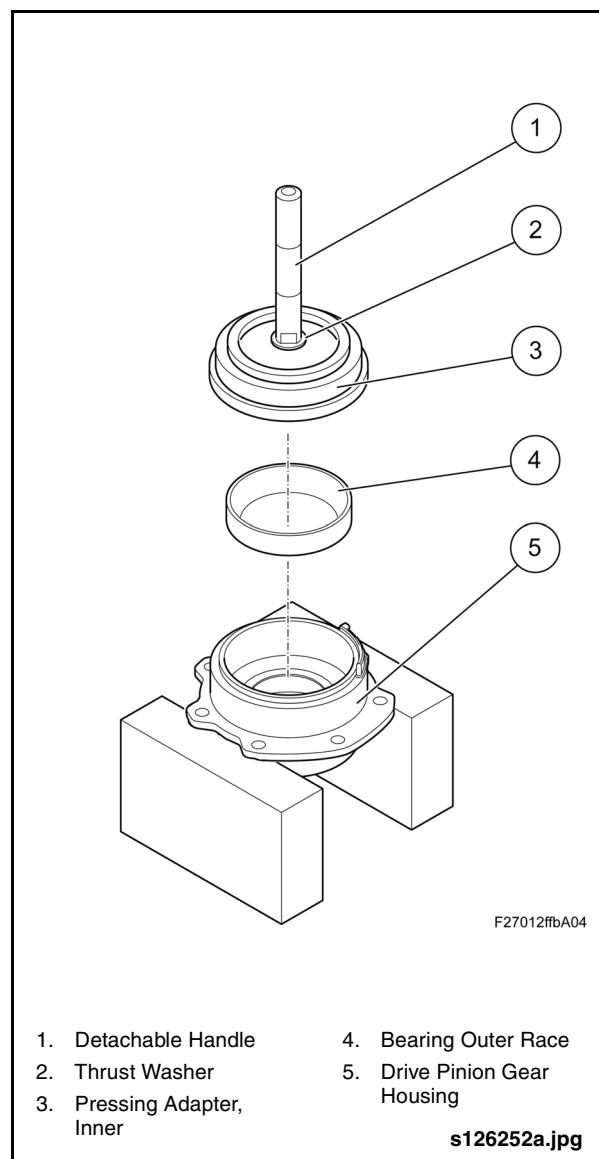

Fig. 2-97: Installing Inner Bearing Outer Race
2. Assemble the Inner Pressing Adapter with the Detachable Handle and Thrust Washer (Items 94, 33 & 15 from Special Tools List). See "Fig. 2-97: Installing Inner Bearing Outer Race" on page 76.